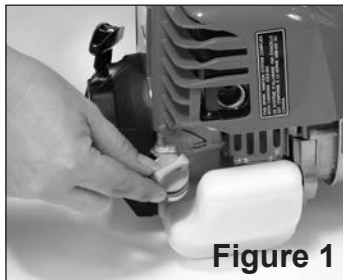

Figure 1
- It is important to position the Mantis 4-Cycle Tiller as shown in **Figure 1** so the oil will properly fill the crankcase. Failure to do so will cause engine damage.